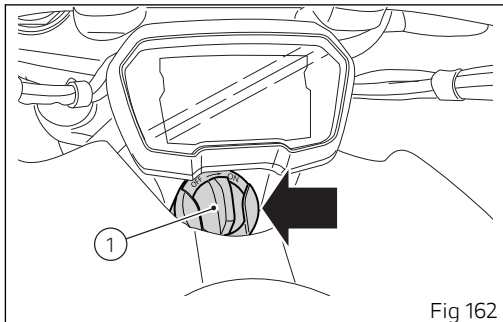
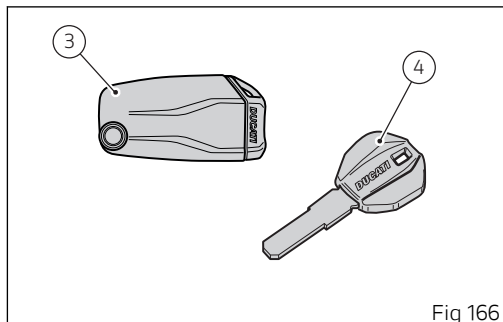

Fig 162
Fig 166
(Fig 162) indicates the position of the Hands Free block (1) and (Fig 162) indicates the position of the antenna (2) under the left-hand tail guard (9).
Key-On can be performed by rotating knob (7) on the Hands free lock counter clockwise (1, Fig 162) and with the presence of the active key (3, .
Key-Off can be performed by rotating knob (7) on the Hands free lock counter clockwise (1, Fig 162), also without the key (3, .
Key-On can be performed by pressing button (6) on the handlebar and with the presence of the passive key (4, Fig 166).
Key-Off can be performed by pressing the button (6) on the handlebar. It can also be performed without passive key (4, Fig 166) only if motorcycle speed is equal to zero.
Key-On can be performed by pressing button (7) on the Hands free lock and with the presence of the passive key (4, Fig 166).
Key-Off can be performed by rotating knob (7) on the Hands free lock counter clockwise (1, Fig 162), also without the key (4, Fig 166).
Key-on can be performed by turning button (7) on the hands free lock (1, Fig 162) clockwise, without the presence of the keys (3, 4, Fig 166) and entering the pin code on the instrument panel.